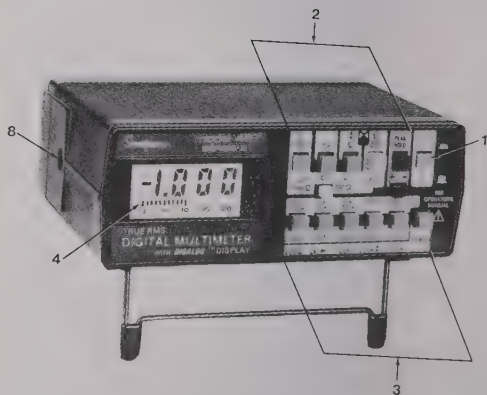

Figure 3-1. Front and Left Side Panel Description
3.2.1 This section, consisting of Table 3-1 and Figures 3-1 and 3-2, will describe the proper function of the 467.